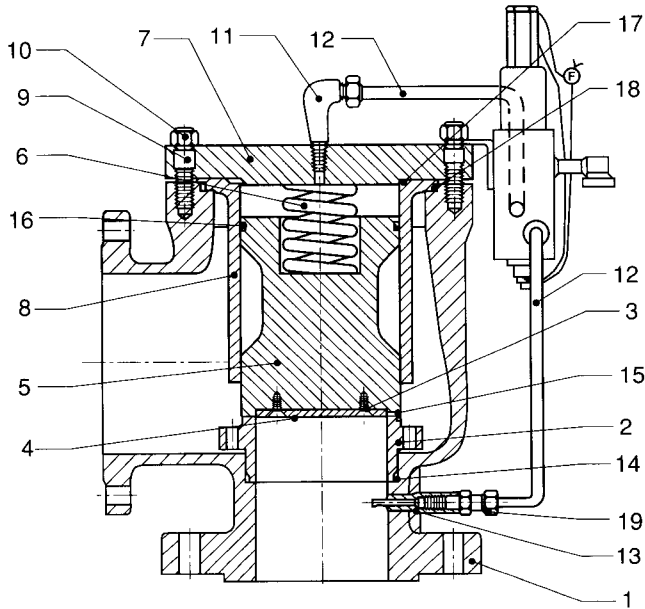

Fig. 5.2
For 3", 4", 6" and 8" inlet size: (Figure 5.2)
1. Refer to Figure 5.2 for construction details.